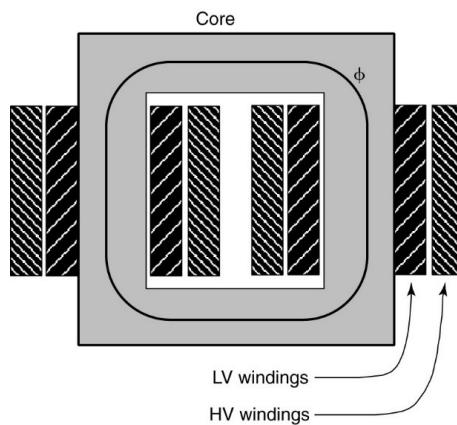

Figure 1.2. Single phase transformer winding details.
- 3) To get good performance with transformer, it should be used, primary wiring is outer, secondary wiring is inner like as Figure 1.2.